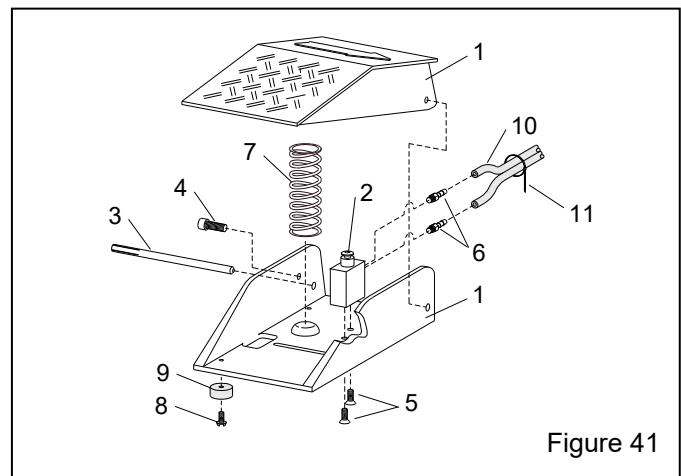

Figure 41
9.5 Foot-Pedal Assembly – Figure 41